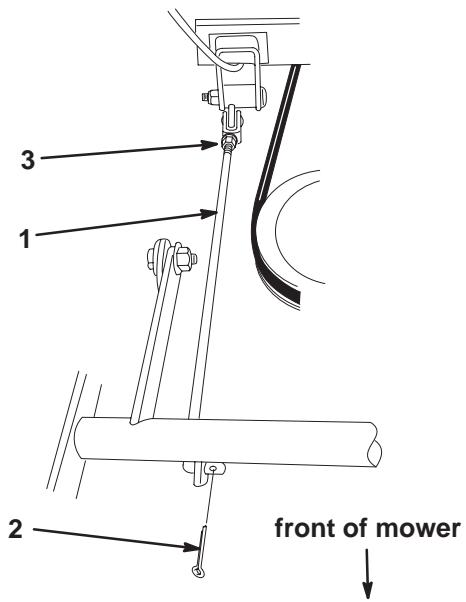

Figure 31
- Remove the cotter pin at the front of the adjusting rod (Fig. 31).
- Loosen the nut at the rear of the adjusting rod (Fig. 31).